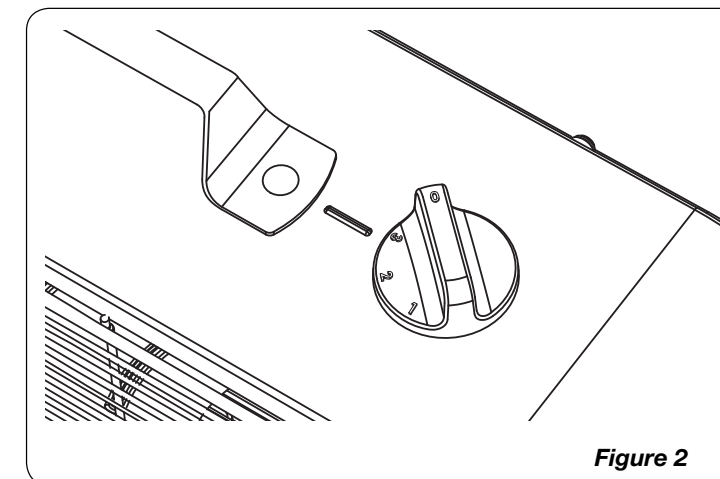

Figure 2
5. Turn the Fan on by selecting the desired speed with the knob on the side of the Fan (*Figure 2*).